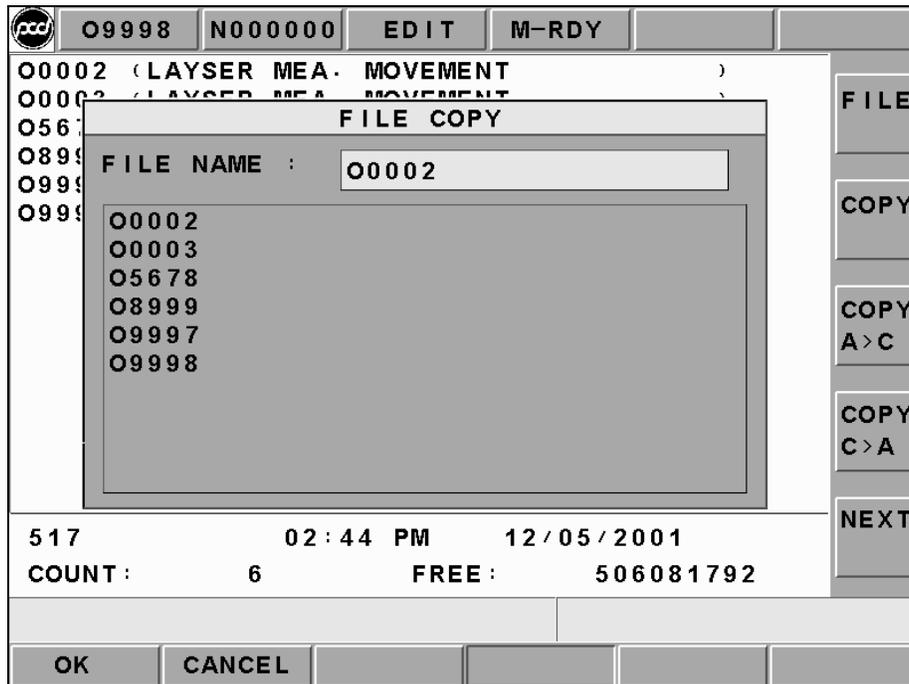

Figure 2.5-15 File Copy Selection Menu
1. Pressing (COPY C>A) in Edit mode and a file selection menu like Figure 2.5-15 will appear from the present working path. This will let users to select the wanted copy present working program to A drive.